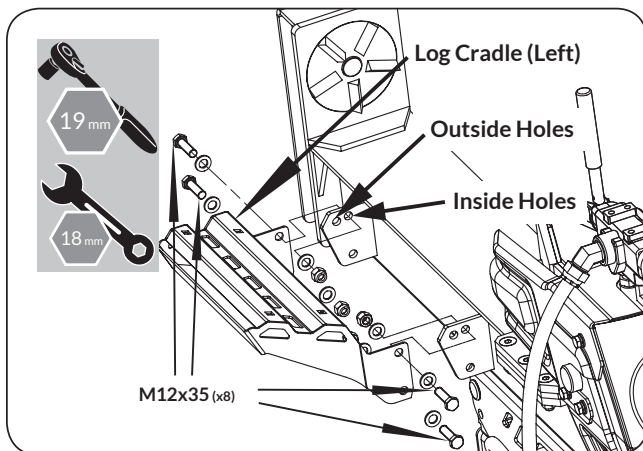

Figure 14
2. Follow step 1 to assemble the right log cradle. (See Figure 14)